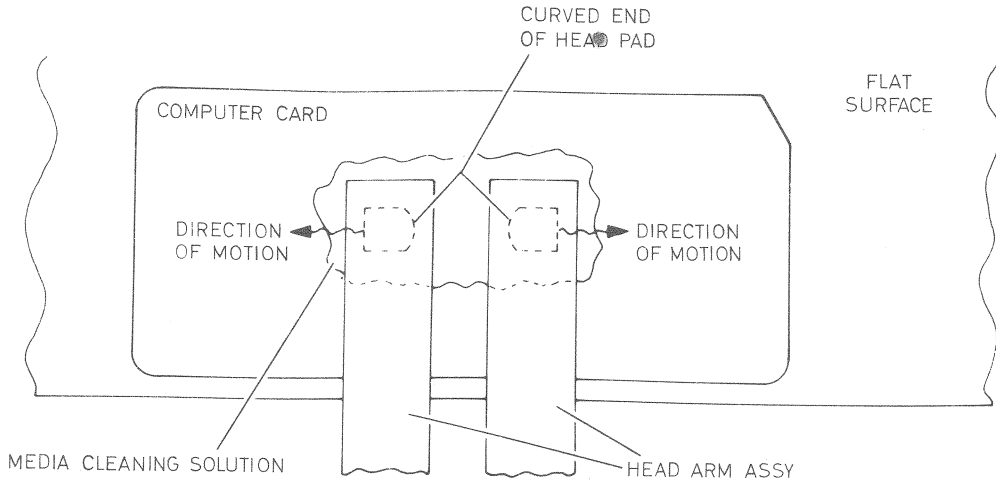

Fig. 3-2
Refer to figure 3-2 if head cleaning is required and perform the following procedure. Use care not to damage any part of the head arm assembly.
3. Place a new, unpunched, clean computer card with the back side up (printing down) on the clean, flat working surface as shown in figure 3-2.
5. Very carefully place the head pad flying surface on moistened area and move head pad from moistened area to dry area in a zig-zag motion as shown in figure 3-2. Move head in a direction away from curved end of head pad. If it is moved in the opposite direction the sharp edge of the curved end will cut into the computer card and prevent movement and proper cleaning.